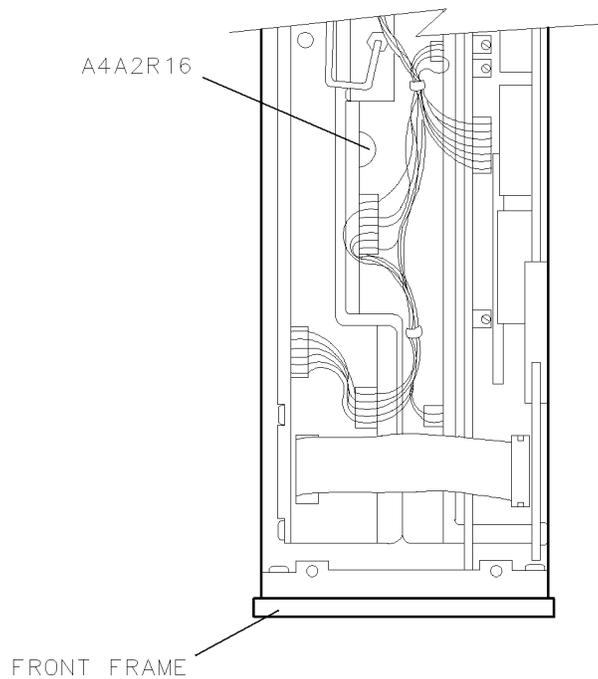

Figure 6-25. Locations for Adjustment 15. Low Idler
3. The program uses the spectrum analyzer to measure both the high and low idler output power levels. Component A4A2 idler lock (R16) is adjusted to set the low-idler power level equal to the high-idler power level. A4A2 idler lock (R16) can be accessed through the top of the A4 idler phase-lock loop, as shown in Figure 6-25.